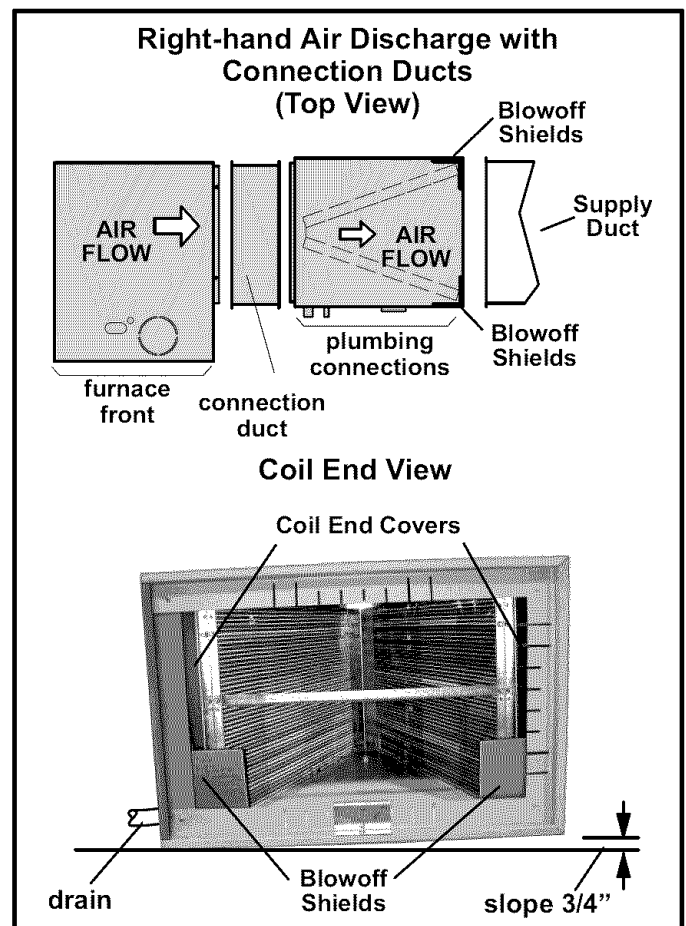

Figure 3
- 3 - Slope the coil cabinet toward the drain connection. The slope must be a minimum of 3/4" (19 mm) high. See figure 3.